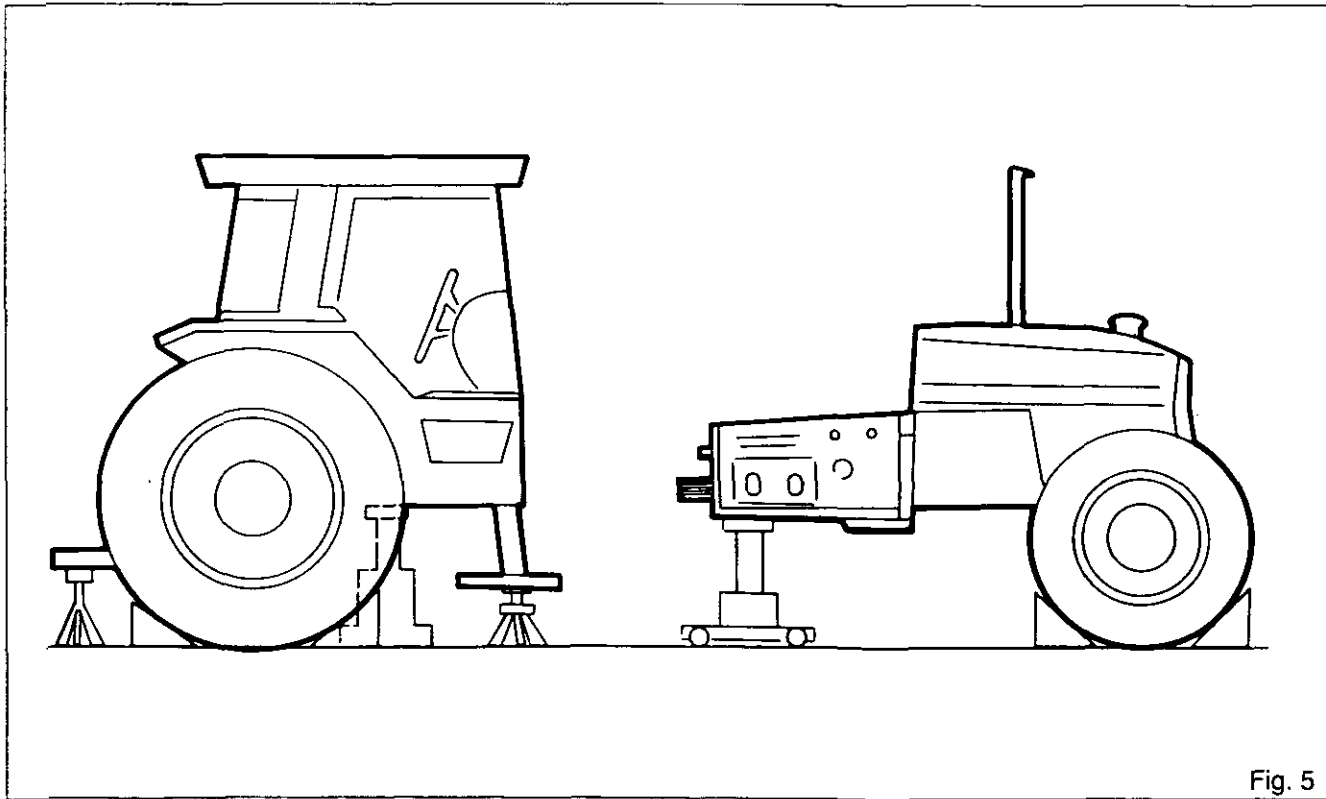

Fig. 5
18. Split the tractor between the gearbox and the rear axle (Fig.5).